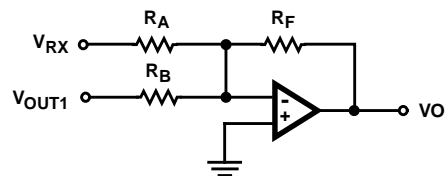

FIGURE 3. TRANSHYBRID AMPLIFIER CIRCUIT
4. For transhybrid circuit as shown in Figure 3.
Since the receive signal and its echo are 180 degrees out of phase, the summing node of an operational amplifier can be used to cancel the echo. Nearly all CODECs have an internal amplifier for echo cancellation. The circuit in Figure 3 shows the cancellation amplifier circuit.